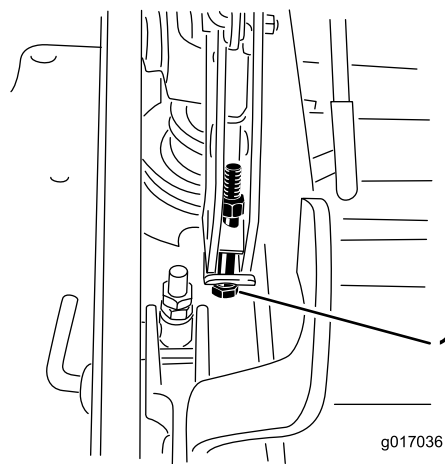

**Figure 116**
11. To adjust the single-point system, loosen the 2 bolts at the bottom of the height-of-cut plate (Figure 116).
13. Tighten the 2 bolts at the bottom of the height-of-cut plate (Figure 116).